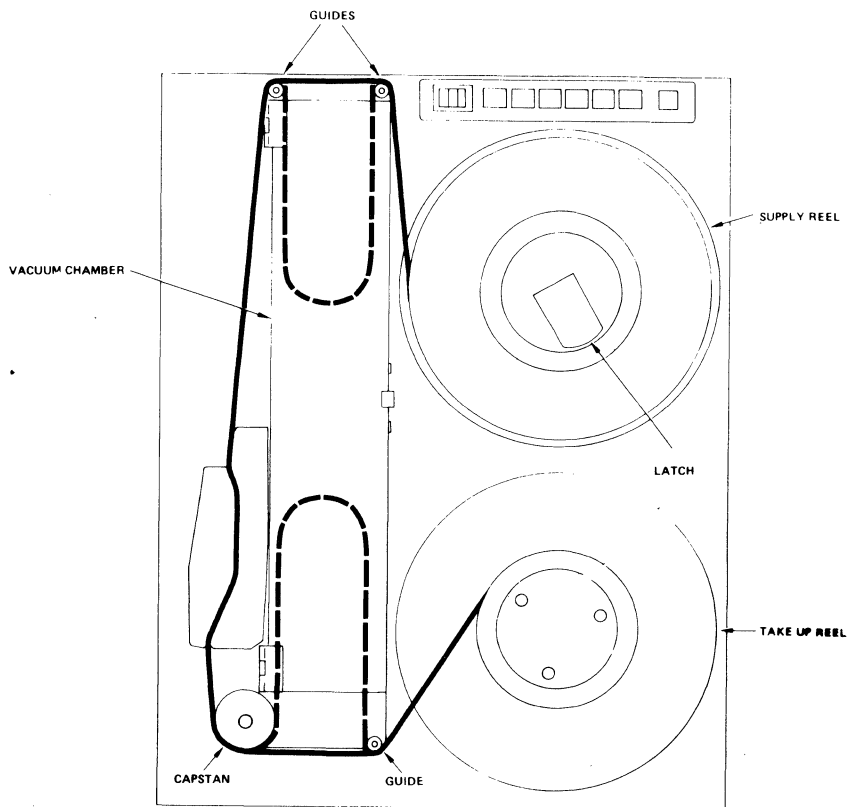

Figure 3-2. Tape Threading Paths
- d. Refer to the tape threading diagram inside the front cover or to figure 3-2 and thread the tape as shown.